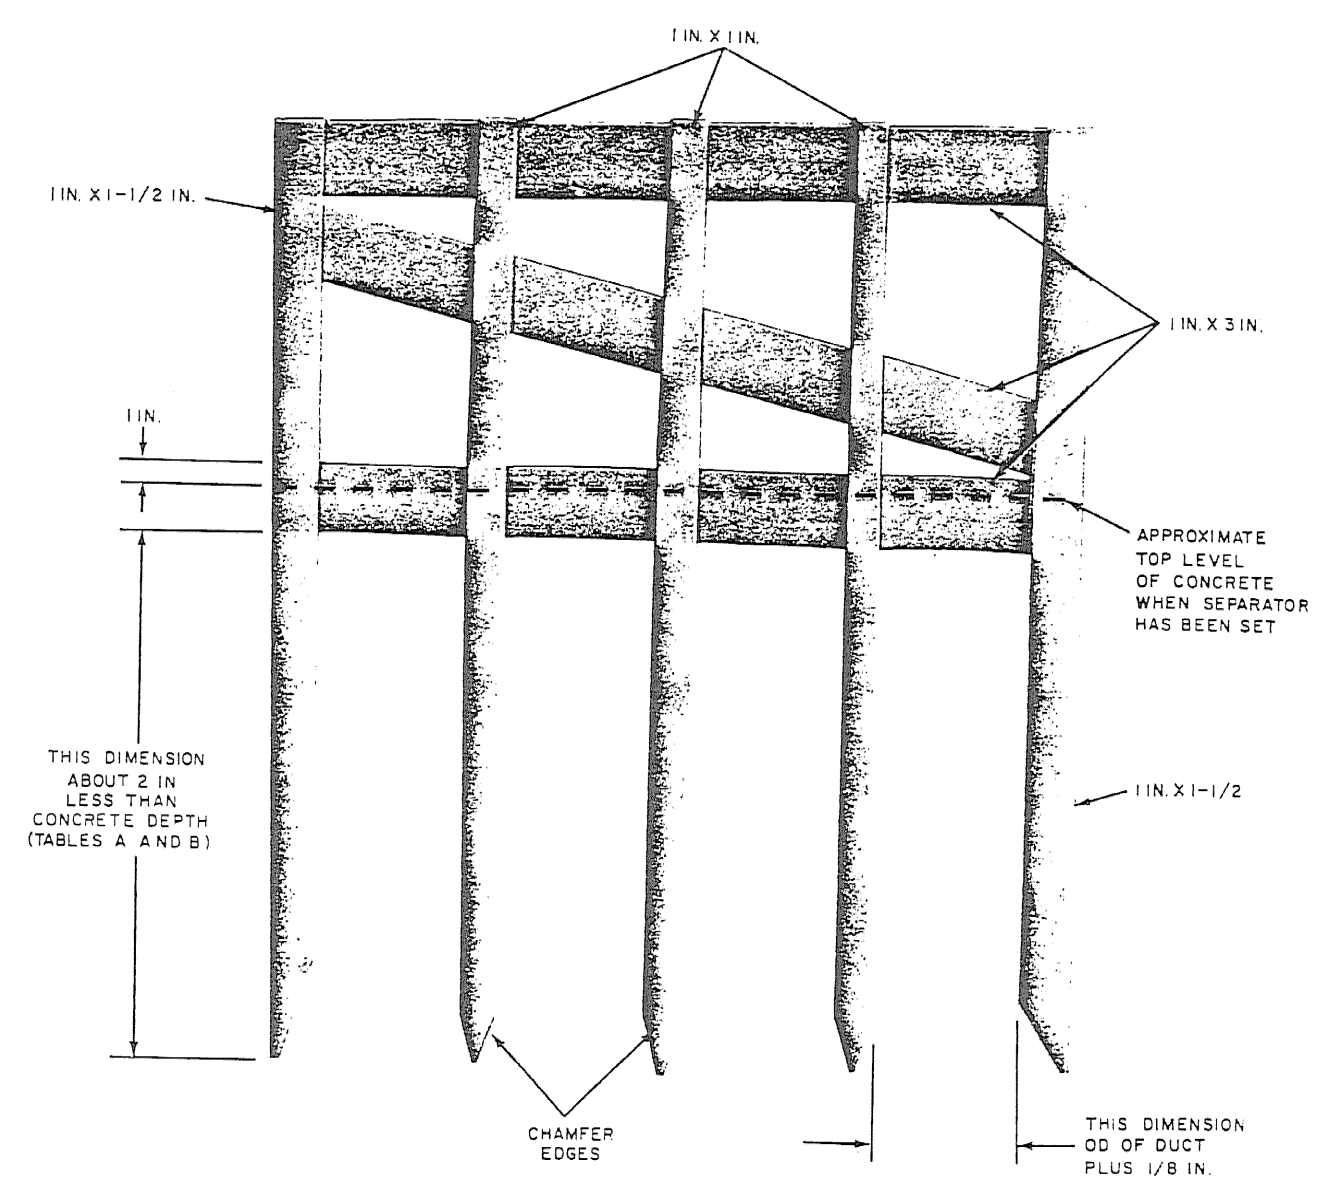

Fig. 6—Fork-Type Separator
5.05 In straight sections up to and including three tiers high, stack the ducts one upon the other with no vertical separation. A minimum separation of 1 inch between vertical columns is obtained by use of temporary fork-type separators (Fig. 6). A monolithic (single pour) concrete encasement may be made with this duct formation.
(1) Place a wood or plastic strip approximately every 4 feet along the trench bottom so as to provide a minimum of 1-1/2 inches of clearance between the first tier of ducts and the trench bottom.
(2) Build up the duct structure in full formation; ie, when each tier of full lengths is laid 20 to 60 feet in the trench, place the second tier, and then the third tier. As the ducts are laid, do not follow deviations in trench alignment to maintain side clearance. Lay the duct as straight as possible, even though it may reduce side clearance for short distances. This is important to ensure against excessive pulling loads when placing cable.
(3) To provide the required horizontal separation between vertical columns of ducts, and from the trench sidewalls during construction, place locally fabricated separators. These should be on not more than 8-foot centers (Fig. 6).